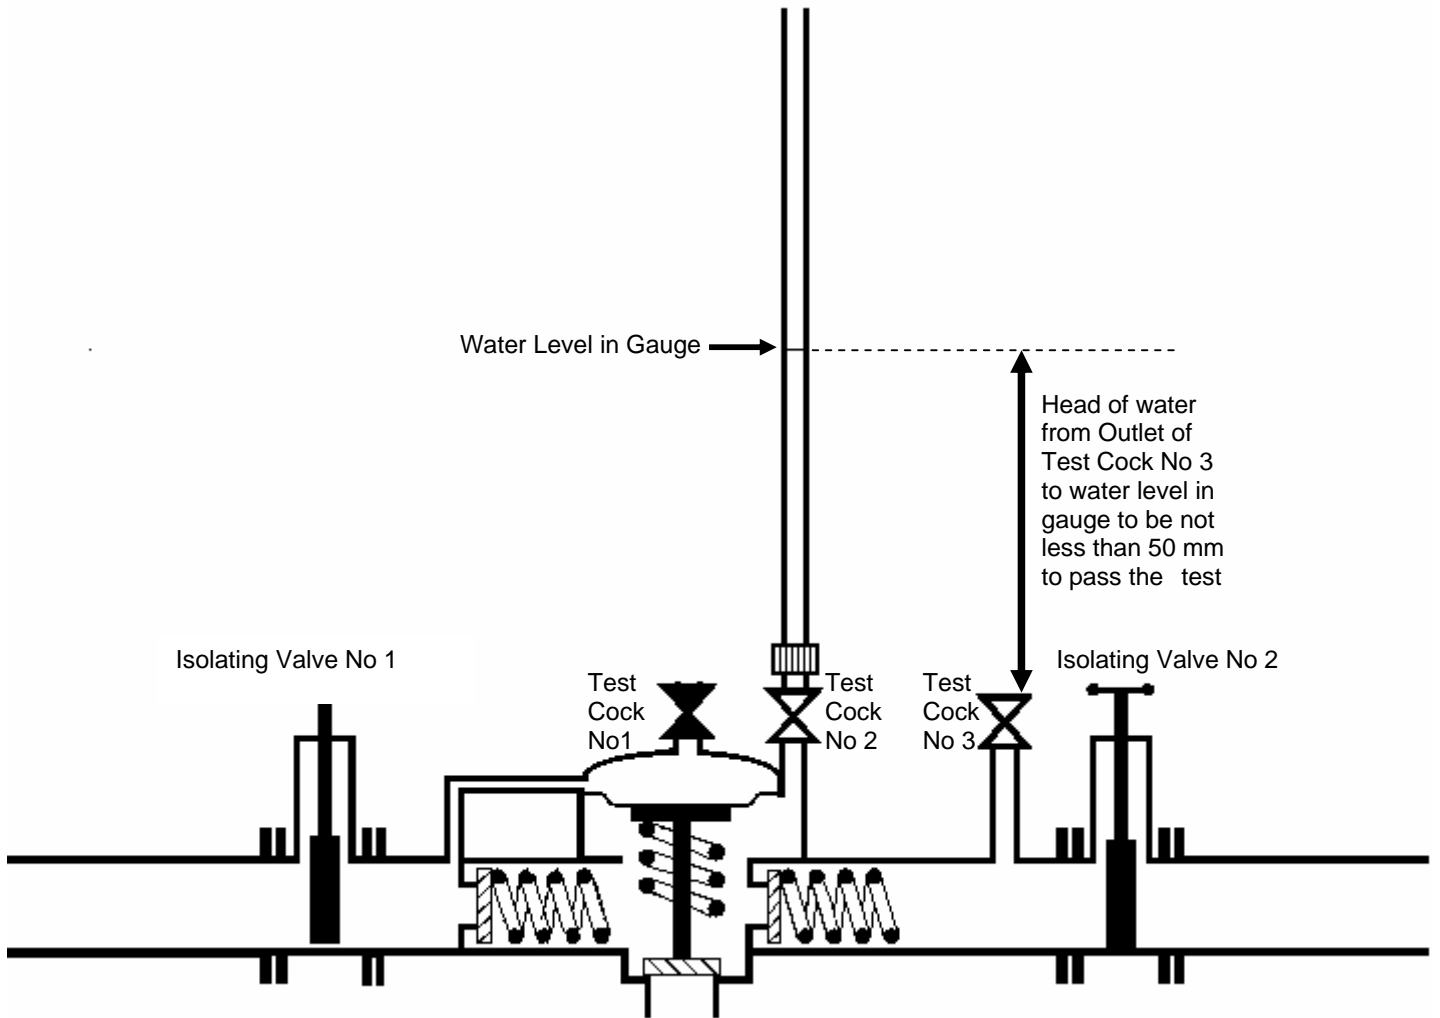

Figure 1: Illustrating the use of a manometer to test the differential pressure of No.2 check valve
**STEPS:** (refer to Figure 1 below)